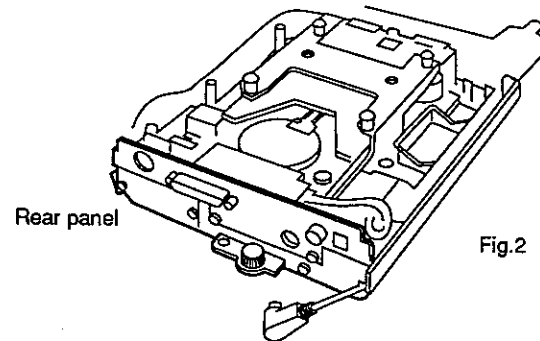

Fig.2
- Step 2** Remove the rear panel, avoid damaging the cable. (Fig. 2)